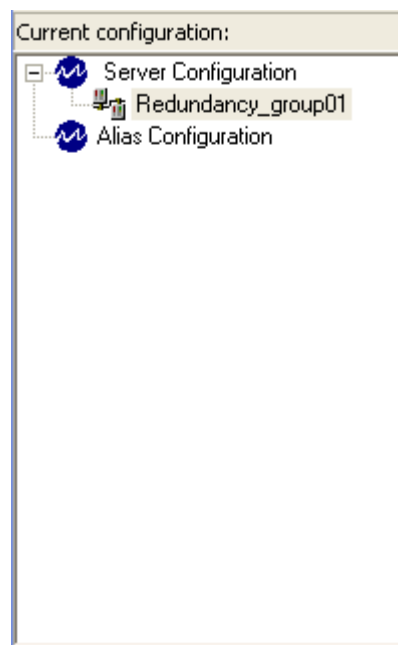

Figure 22 - New Redundancy Group Object
8. Click on the **OK** button. The object is created and appears as a child of the **Server Configuration** item as shown in Figure 22.